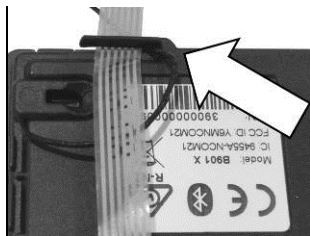
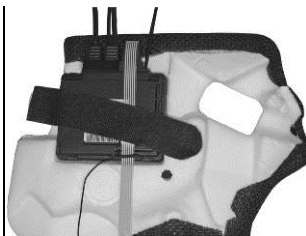

Fig. 42
Fig. 43
- Secure the keypad flex in the special stop (Fig. 42) and position the e-box inside its housing in the cheek pad (Fig. 43).